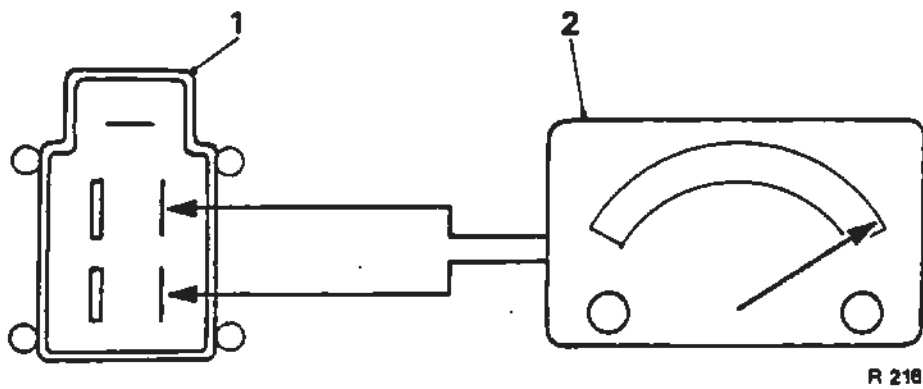

Figure 3
7. Connect a circuit continuity tester across the non-adjustable switch terminals 2 and 4 (see Fig. 3).